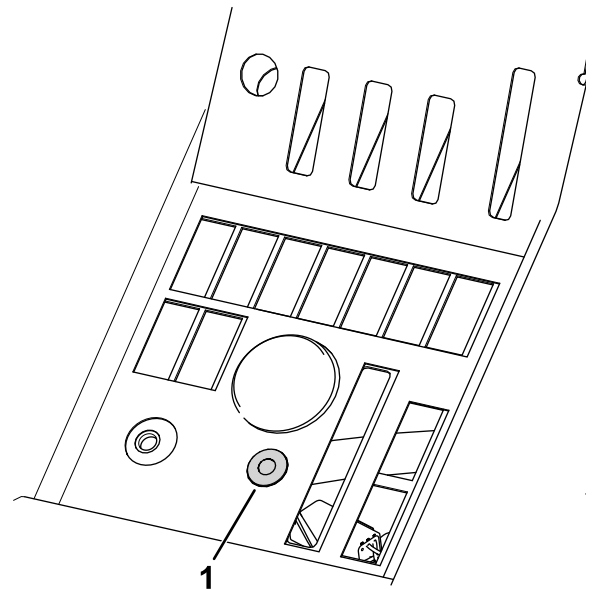

**Figure 4**
4. Install the wire harness connector labeled P02 to the slope sensor (Figure 4).
5. Route the wire harness towards the control panel (Figure 4) and ensure that it is secured and away from moving parts or pinch points.
6. Coil any additional amount of wire harness to the left of the control panel (Figure 4).